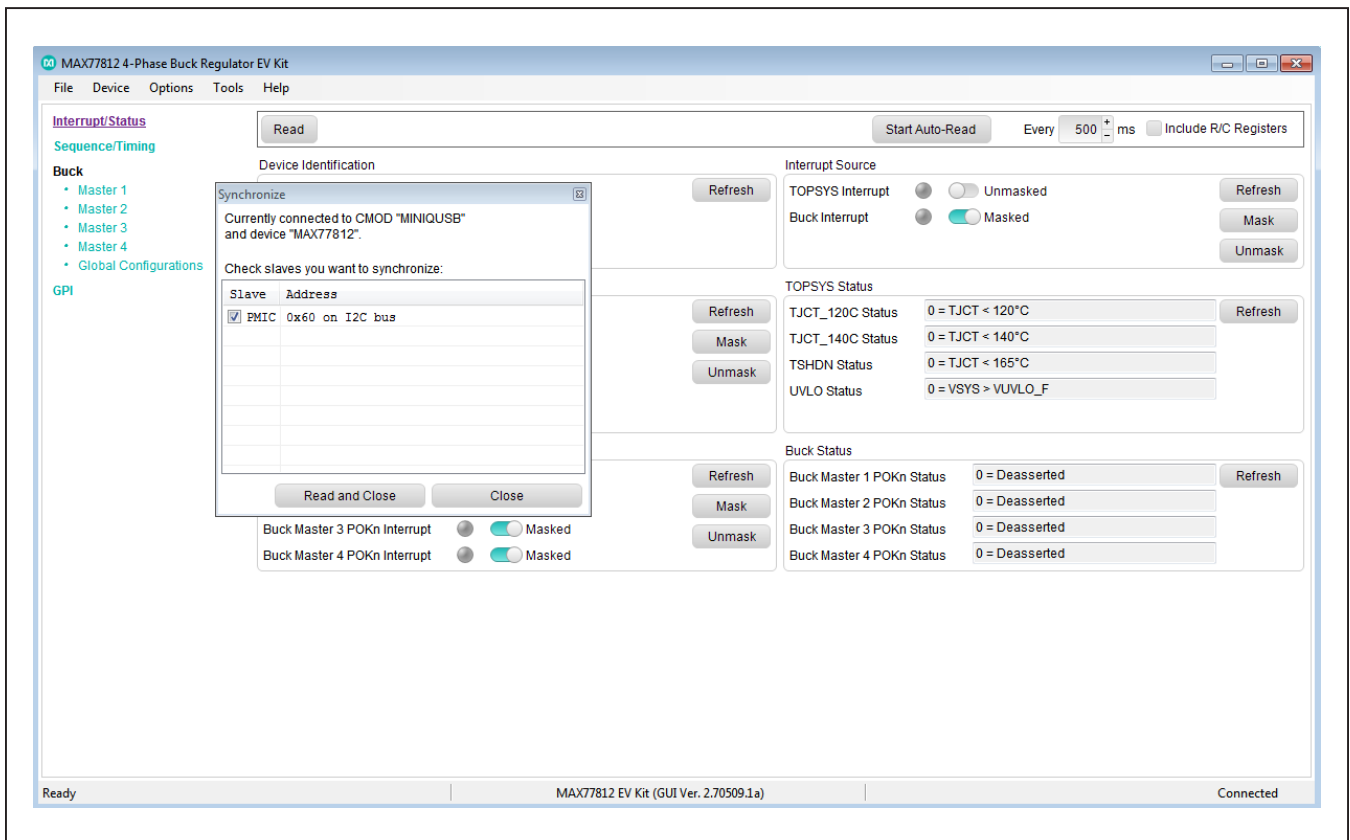

Figure 4. MAX77812 EV Kit GUI Connection
- 4) Enable the power supply output and confirm the input current is low (< 100µA). Open the MAX77812 GUI window and click on **Device** then **Connect**. If the connection is successful, it displays the message **Currently connected to MINIQUSB CMOD and DEVICE MAX77812**. Click **Read and close** (Figure 4).